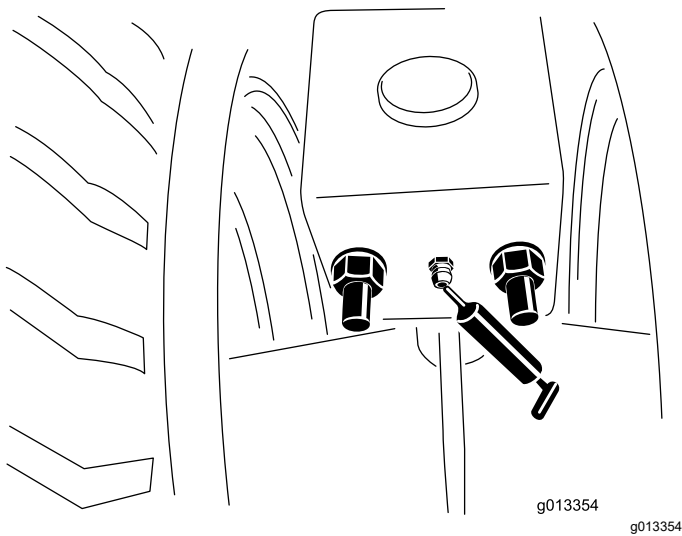

Figure 56
1. Clean the grease fittings (Figure 56).